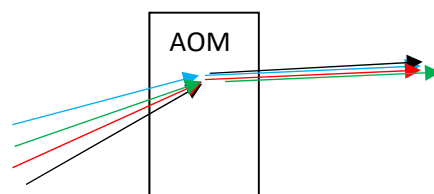

Fig.2
- may be possible too - separated input but combined coaxial output beams – a kind of backward polychromatic deflector (preferred option to simultaneously directly combine individual laser beams) (Fig.2)